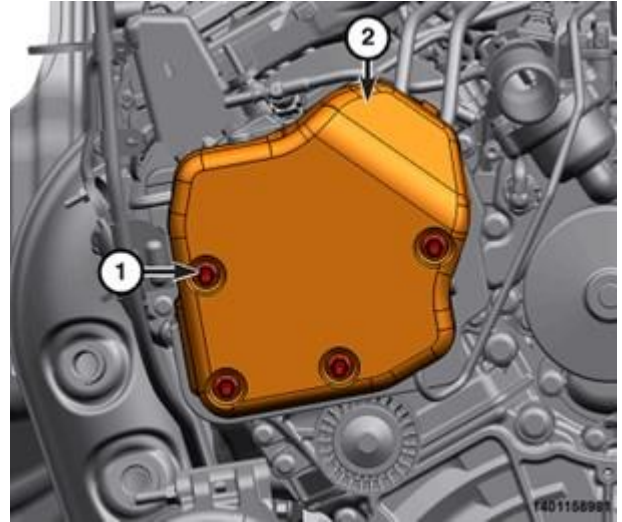

Figure 89 – Pump Blocker Shield
- 178. Install the fuel injection pump blocker shield (2) and tighten the bolts (1) to 25 N-m (18 ft. lbs.) (Figure 89).